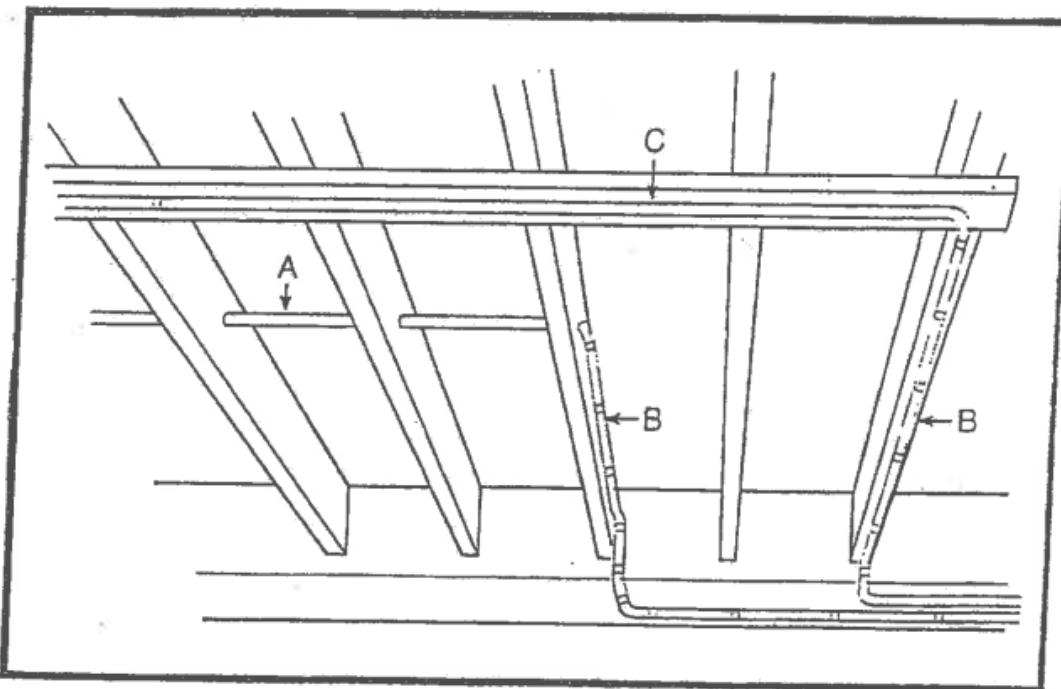

Figure 336.3 Nonmetallic-sheathed cables installed in an unfinished basement.
As illustrated in Figure 336.3, nonmetallic-sheathed cables installed in an unfinished basement can be run through joists (A) and attached to the side or face of joists or beams (B) and running boards (C). Section 300-4(d) requires cables that are run parallel to framing members be installed at least $1\frac{1}{4}$ in. from the nearest edge of studs, joists, or rafters.